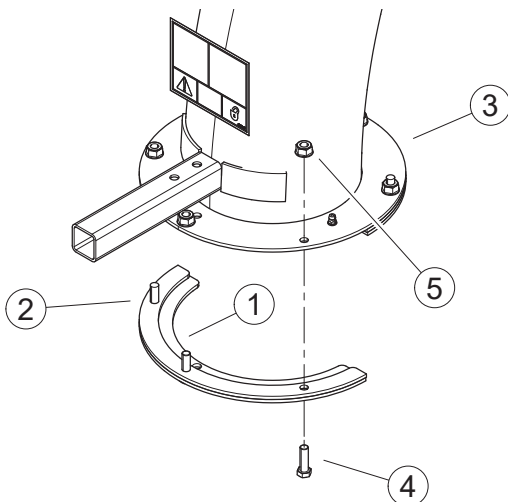
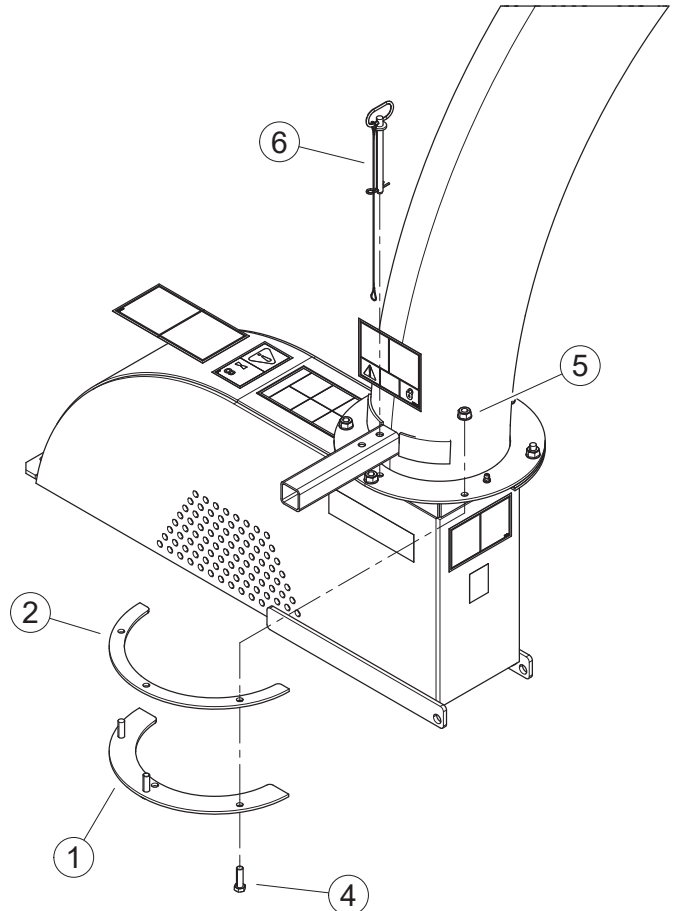

Figure 2.1.1, Attach Clamp Ring and Spacer
Figure 2.1.2, Attach Discharge Tube
1. Attach one clamping ring (1) and one spacer ring (2) to discharge tube base (3) using three $\frac{3}{8}$ " \times 1-1/4" bolts (4) and nylock nuts (5). Tighten leaving $\frac{1}{16}$ " gap to assist in mounting to flange. See Figure 2.1.1.
2. Slide the tube onto the mounting flange on the chipper frame. The discharge clamp (1) should slide underneath the lip of the flange. Tighten the bolts to secure it.
3. Install the second half of the spacer (2) and clamp ring (1) on the discharge tube with $\frac{3}{8}$ " \times 1-1/4" bolts (4) and nylock nuts (5).
4. Attach lanyard with discharge pin (6) as shown in Figure 2.1.2. Loop on lanyard installed below nut located under discharge handle.